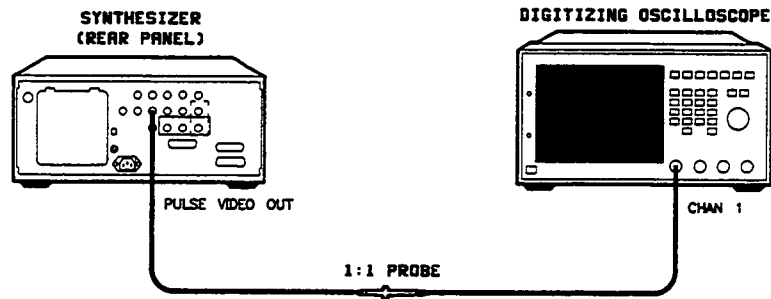

Figure 2-25. Pulse Accuracy Test Setup
1. Connect the equipment as shown in Figure 2-25 using a 1:1 probe. Preset all instruments and let them warm up for at least one hour.